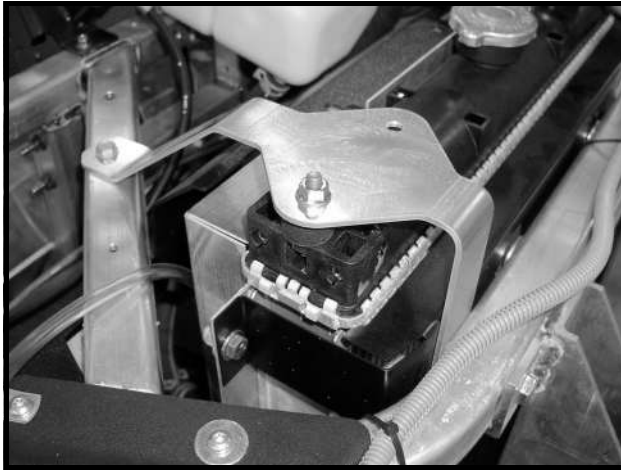

Figure 15-6 Radiator Bracket Attachment
9. Remove the flanged locknuts from the right and left sides of the upper radiator mount bracket (**Figure 15-6, Page 15-6**).
- 8.3. Secure the radiator top bolts with new flanged locknuts (**Figure 15-6, Page 15-6**). Tighten the hardware to 7 ft-lb (9.0 N·m).